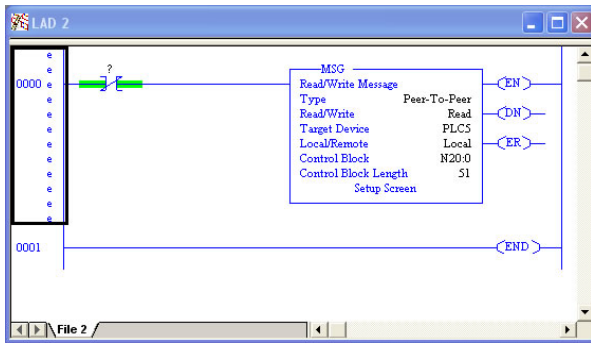

Figure 105: PLC Program after MSG Instruction Configuration
- f) Close the dialog box. At this point, the program should appear as shown in Figure 105.